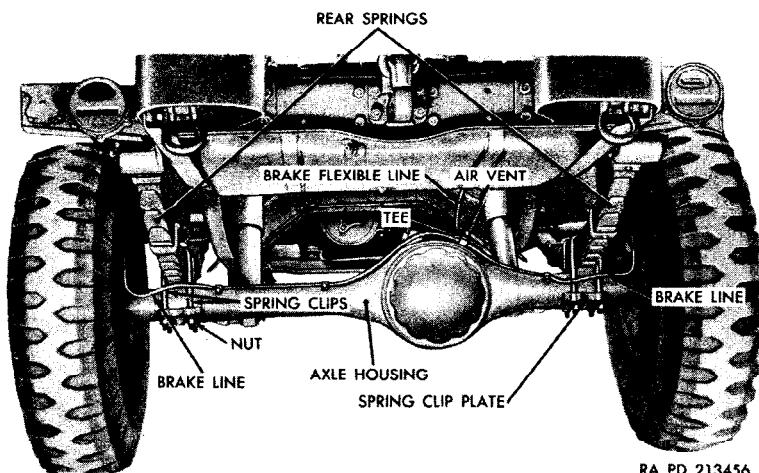

Figure 180. Removal or installation of rear axle.
a. Replace Air Vent. The air vent (fig. 180) for the rear axle serves the same purpose as the vent in the front axle (par. 207a). The rear axle vent secures the brake line tee on the axle housing and is removed by unscrewing the vent nut. At each inspection, service the vent as described in paragraph 207a(2). When installing the vent, position the tee on the axle housing and screw the vent through the tee into the housing. Tighten the vent nut.
- (1) Install the brake flexible line (fig. 180) in the tee on the differential carrier and tighten.
- (2) Install the two wheels and tires (par. 227).
- (3) With the frame raised (*b*(2) above), position the axle under the rear springs, with the spring center bolts in the recesses of the seats in the axle housing.